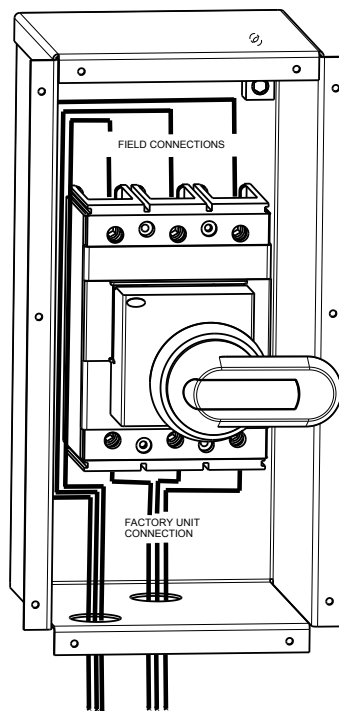

Figure 1
3. Route field wiring through the wire inlet and connect to the top lugs of the disconnect switch (Figure 1). **NOTE:** Disconnect switches are functional in any position. Some might be mounted "upside down". Field wiring should connect in the top as shown.